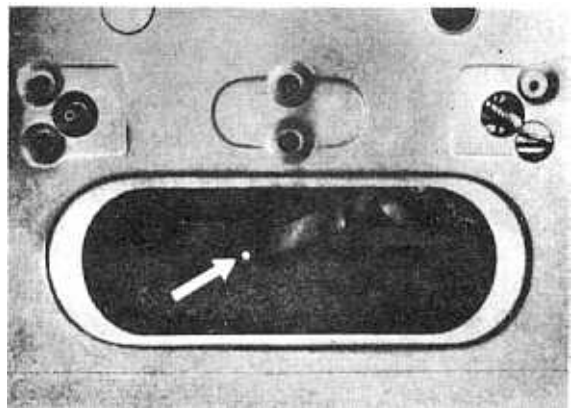

Fig. 30
4. Push pane into rail of crank mechanism and tighten nut behind brace end (see fig. 30), tighten also bolts of window guides.